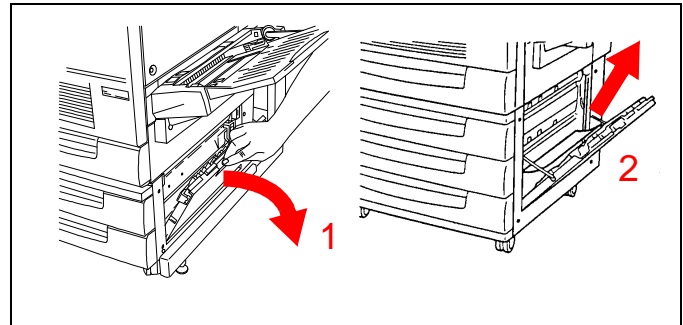

Figure 29
1. See Figure 29. Open the right cover of the two tray module.